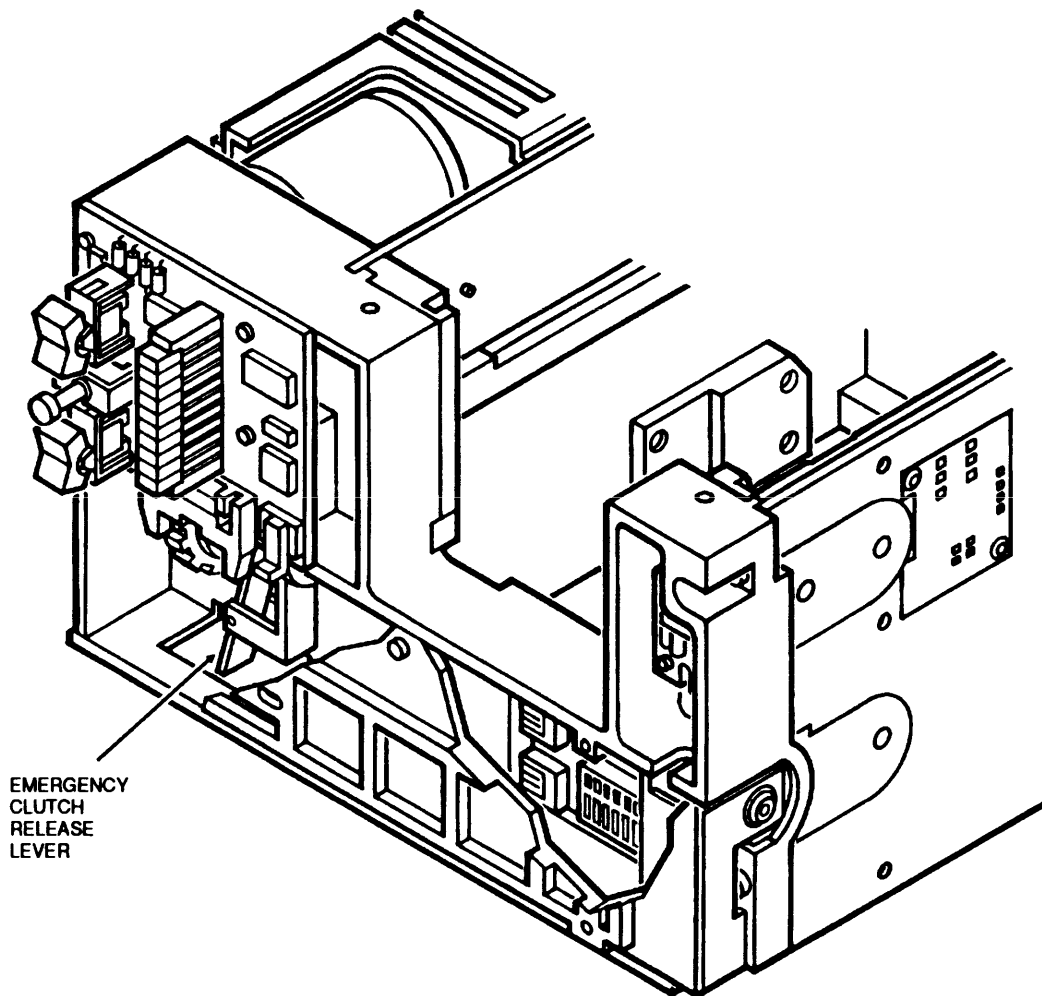

Figure 12
2. Reach under front of vertical transmission and locate clutch release lever (Refer to Figure 12).